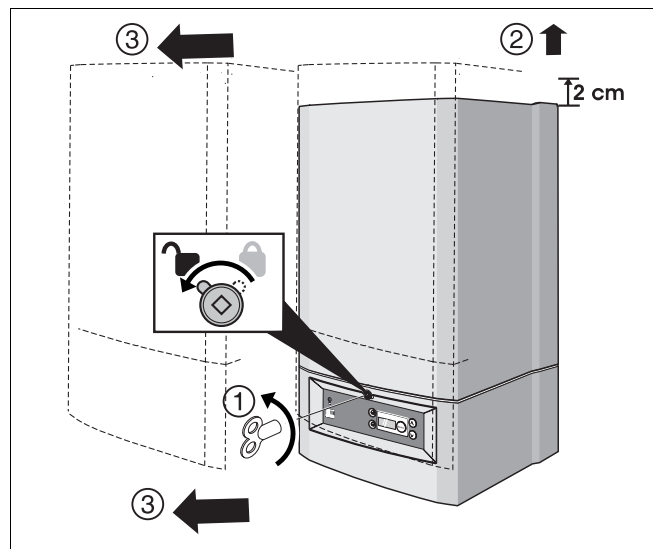

fig. 3 Remove casing
- Open the locking mechanism using a radiator key (fig. 3, item 1). The radiator key is included in the delivery of the boiler in the accessories bag.
- Detach the casing of the condensing gas boiler (fig. 3).